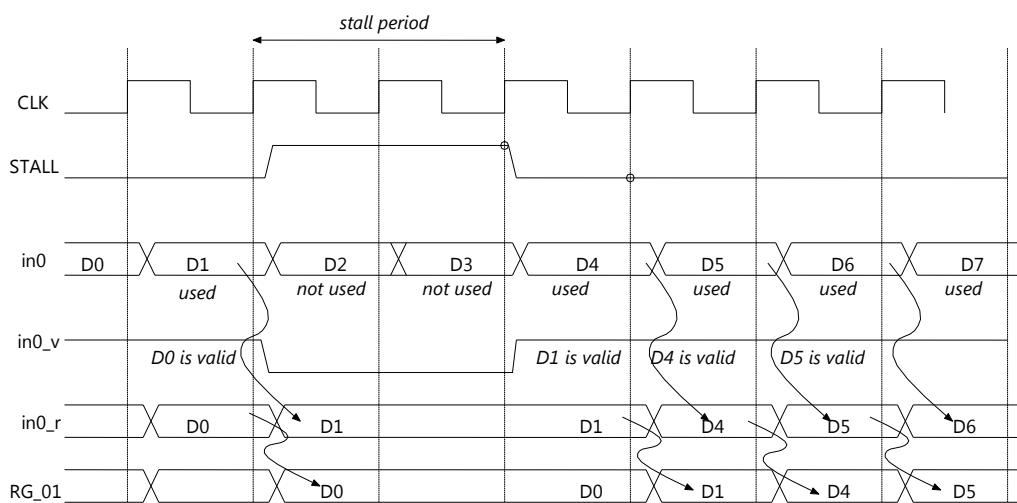

Figure 90: Behavior of valid signal for "in reg" during the stall operation
- "in reg" (**Figure 90: Behavior of valid signal for "in reg" during the stall operation**)